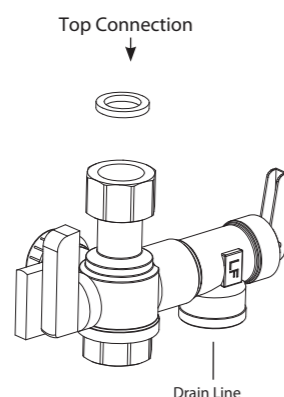

Figure 1: Hot Water Service Valve
- Thread the pressure relief valve into the 3/4" port on the side of the hot water valve and hand tighten. Using a wrench, tighten the pressure relief valve until the discharge on the pressure relief valve is positioned downward on the isolation valve, as shown in Figure 1.
- The tankless water heater must be positioned at the top connection point as shown in figures 1 and 2.